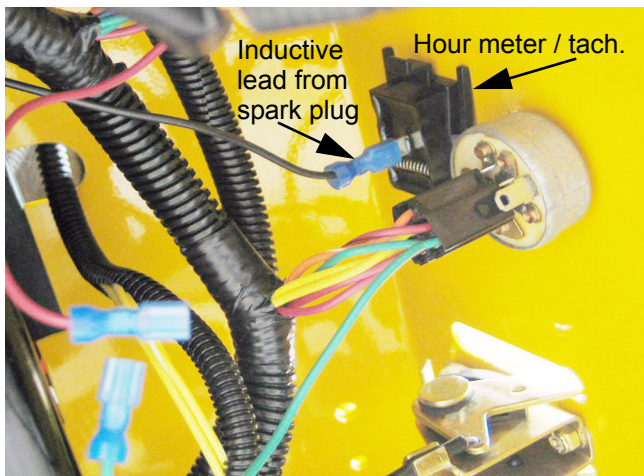

Figure 28.24
28.24. **Hour meter:** The hour meter is clipped-into the front surface of the control housing. It can be removed by unplugging the electrical connection and squeezing the clips that secure it. See Figure 28.24.